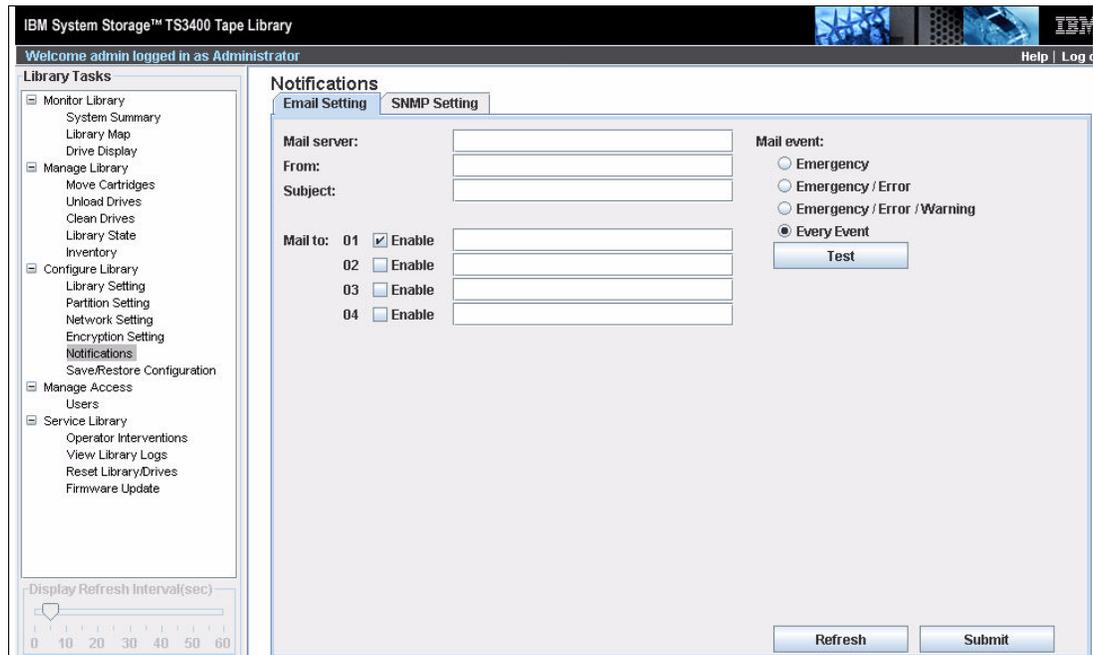

Figure 8-28 E-mail settings notification for the TS3400
- E-mail notification. This feature automatically sends an e-mail containing event information to the e-mail addresses specified whenever an event of a certain level occurs. The contents of the e-mail message are similar to the information that can be obtained by Single Network Management Protocol (SNMP) traps without using SNMP management software. See Figure 8-28.